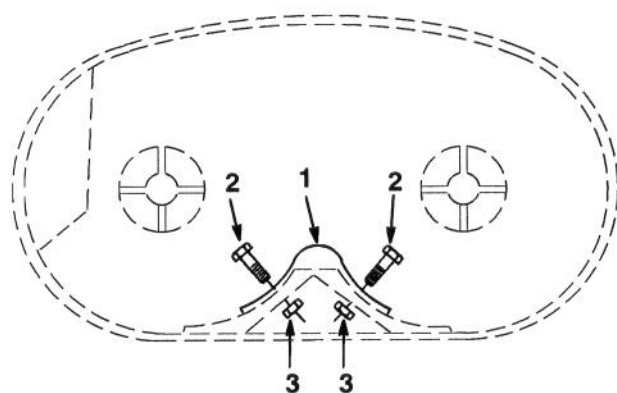

Figure 1
1. Center rear weldment as shown in (Fig. 1). Install rear baffle to deck using two $\frac{1}{4}$ "-20 x $\frac{3}{4}$ " bolts and $\frac{1}{4}$ -20 lock nuts.